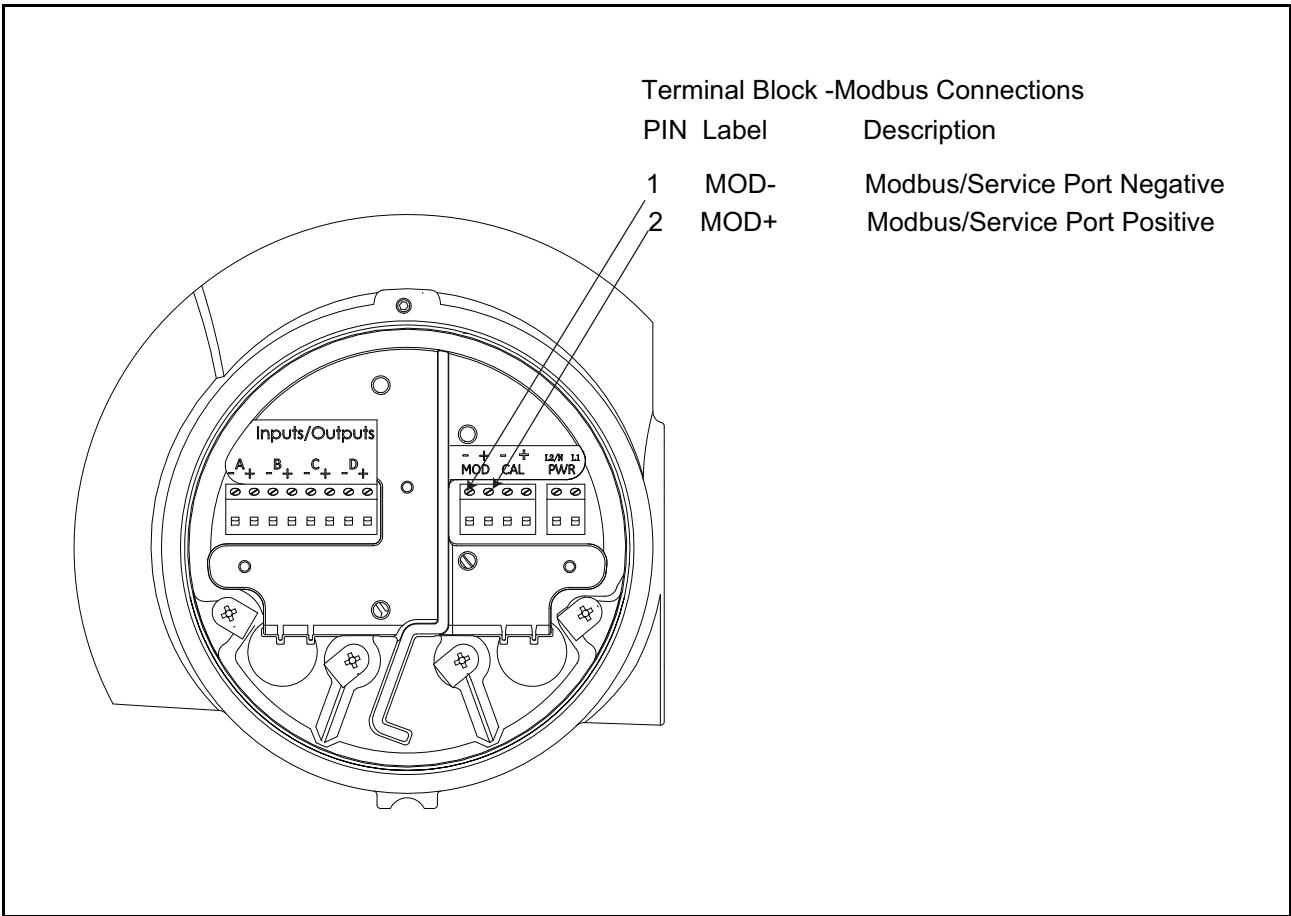

Figure 15: Modbus Connections
3. Feed one end of the cable through the conduit hole, wire it as shown in Figure 15 below.